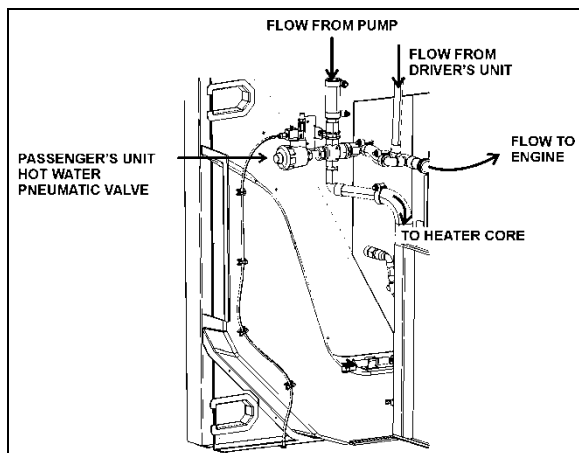

**FIGURE 49: DRIVER'S UNIT HOT WATER PNEUMATIC VALVE ASSEMBLY**
The flow of hot water to the driver's unit heater core is controlled by a normally open (NO) pneumatic valve like. The valve located at the ceiling of the spare wheel compartment (Figure 49), is designed so that the pilot solenoid valve, which is part of the assembly, opens and closes a port which directs air pressure to the actuator casing, thereby opening or closing the valve.
2. Locate the normally open hot water pneumatic valve on the ceiling of the spare wheel compartment (Figure 49), disconnect its wiring connector, and then connect a 24-volt external power source, using jumper cables, to close the valve.